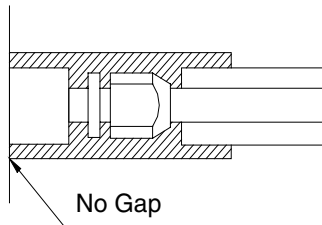

Fig.8.14
2. The joint connecting to the indoor unit must be wrapped by thermal insulation material. There shall be no gap between the refrigerant pipe joint and the wall of the indoor unit. Refer to Fig. 8.14.